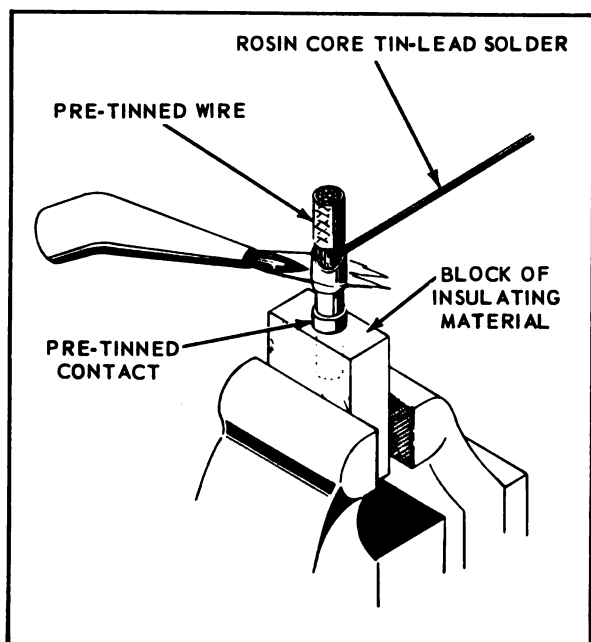

Figure 7-15. Torch Soldering Thermocouple Wire to MS Connector Contact
d. Insert properly pretinned wire into contact and solder using resistance pliers or torch. Use only rosin core solder for this operation. See figure 7-15.